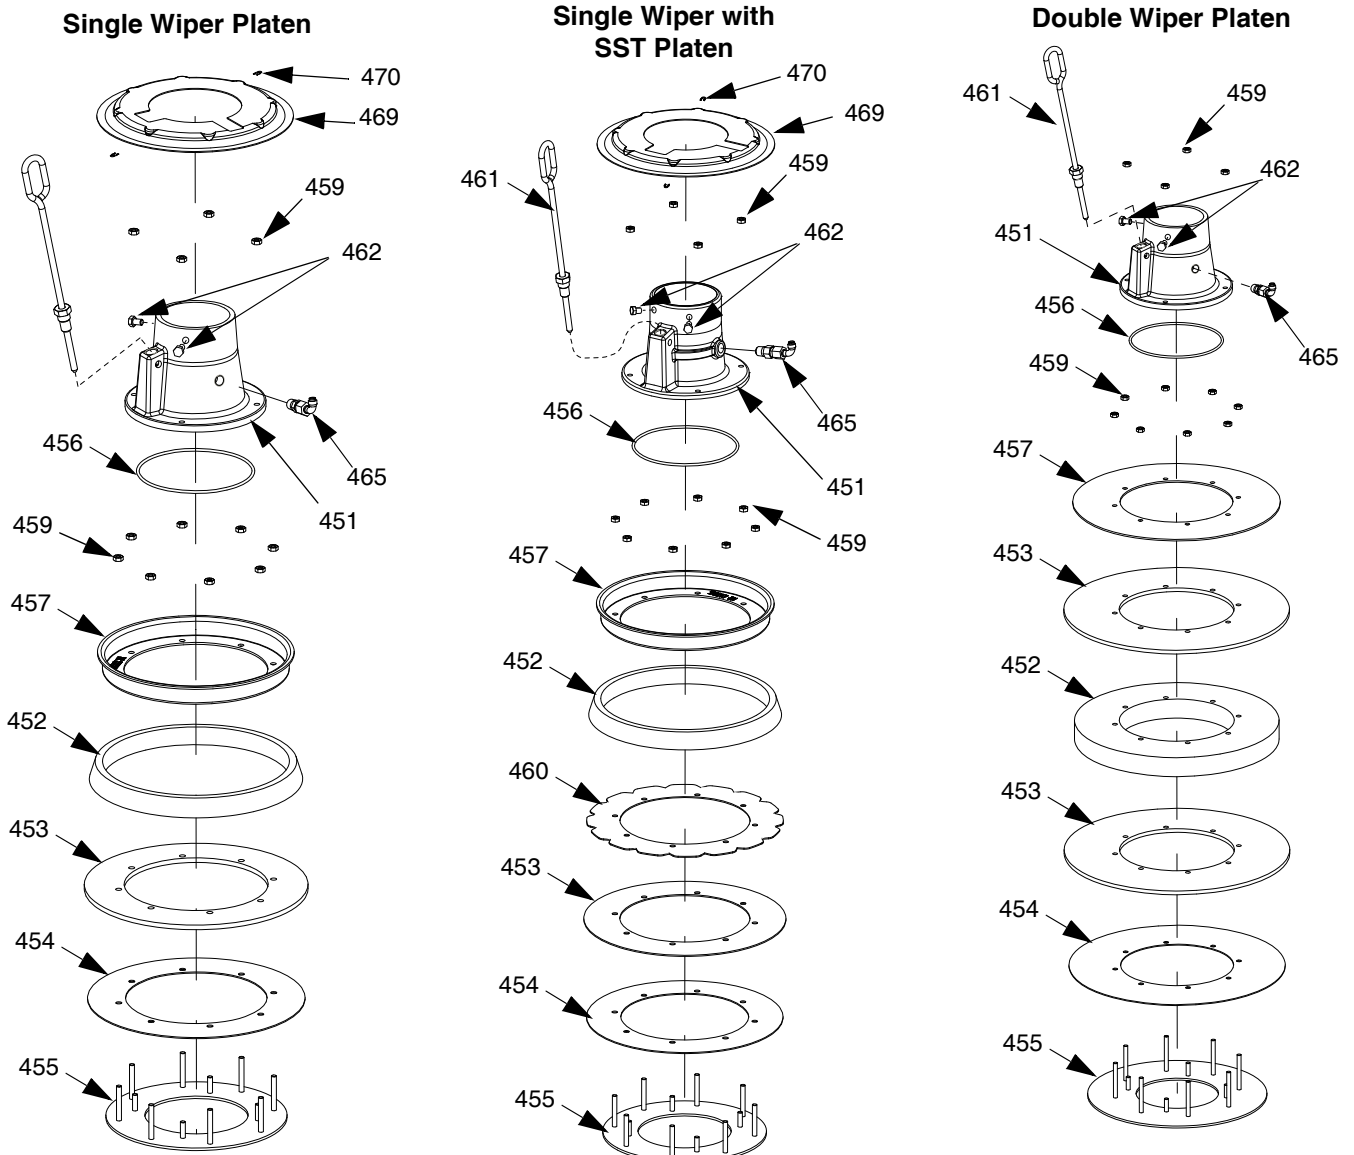

FIG. 10: 60 Liter (16 Gallon) Single and Double Wiper Assemblies
1. Remove wiper assembly; see FIG. 10:
- a. For all single wiper platens: Remove two clips (470) with needle nose pliers and remove platen cover (469).
- b. Remove eight nuts (459) that hold wiper assembly to platen casting (451) and remove wiper assembly.
2. Remove eight nuts (459) on wiper assembly.
3. Separate top plate (457), spacer (452), wiper(s) (453), wiper support (454), and bottom plate (455).